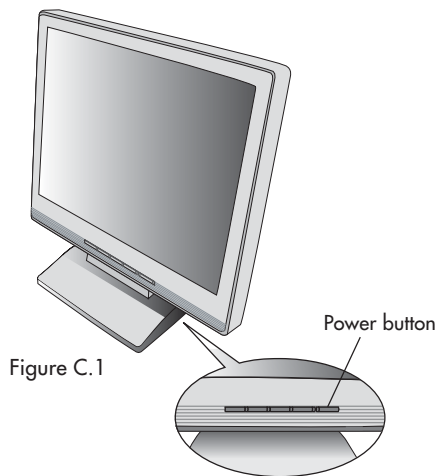

Figure C.1
5. Turn on the monitor with the front power button and the computer. (**Figure C.1**)